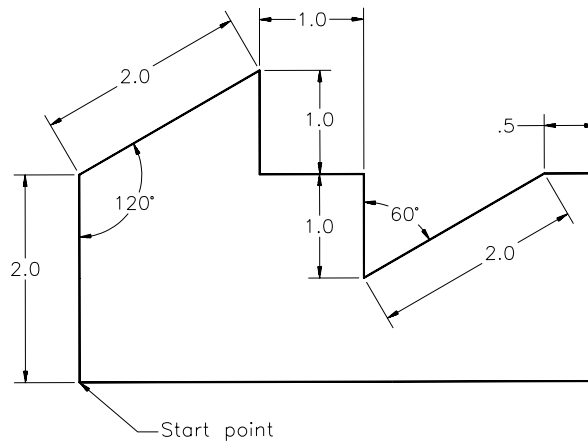
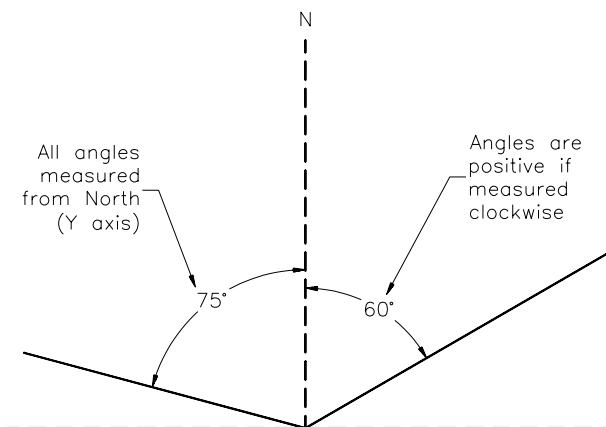

Figure 2-48 Drawing for Example 5
Figure 2-50 Angles measured from north (Y axis)
In this example, you will set the units of a drawing according to the given specifications and then draw Figure 2-48. You also need to do the following.
- Set the direction to 90-degree (north) and the direction of measurement of angles to clockwise (angles measured positive in clockwise direction), refer to Figure 2-48.
6. With the units set, draw Figure 2-48 using the relative polar coordinates. Here, the units are fractional and the angles are measured from north (90-degree axis). Also, the angles are measured as positive in the clockwise direction and negative in the counterclockwise direction, see Figure 2-50.